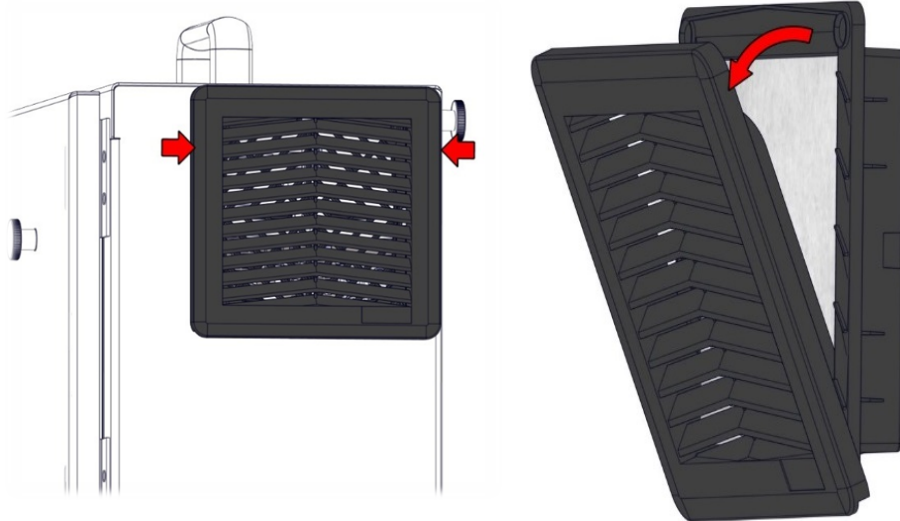

Figure 3.7. Cserélje ki a vezérlődoboz szűrőit.
1. Gently remove the outer plastic frame by pulling where the red arrows are, as shown in the images below in figure 3.7. A keret kinyílik.